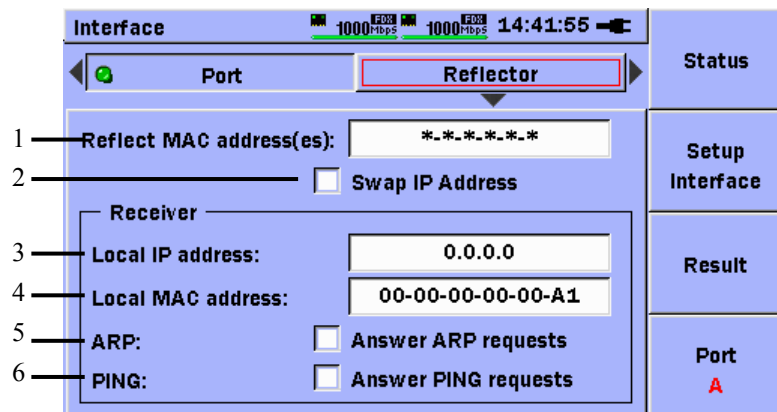

Figure 4.2.2-1 Setup Interface (Reflector)
- Reflector Panel (Figure 4.2.2-1)